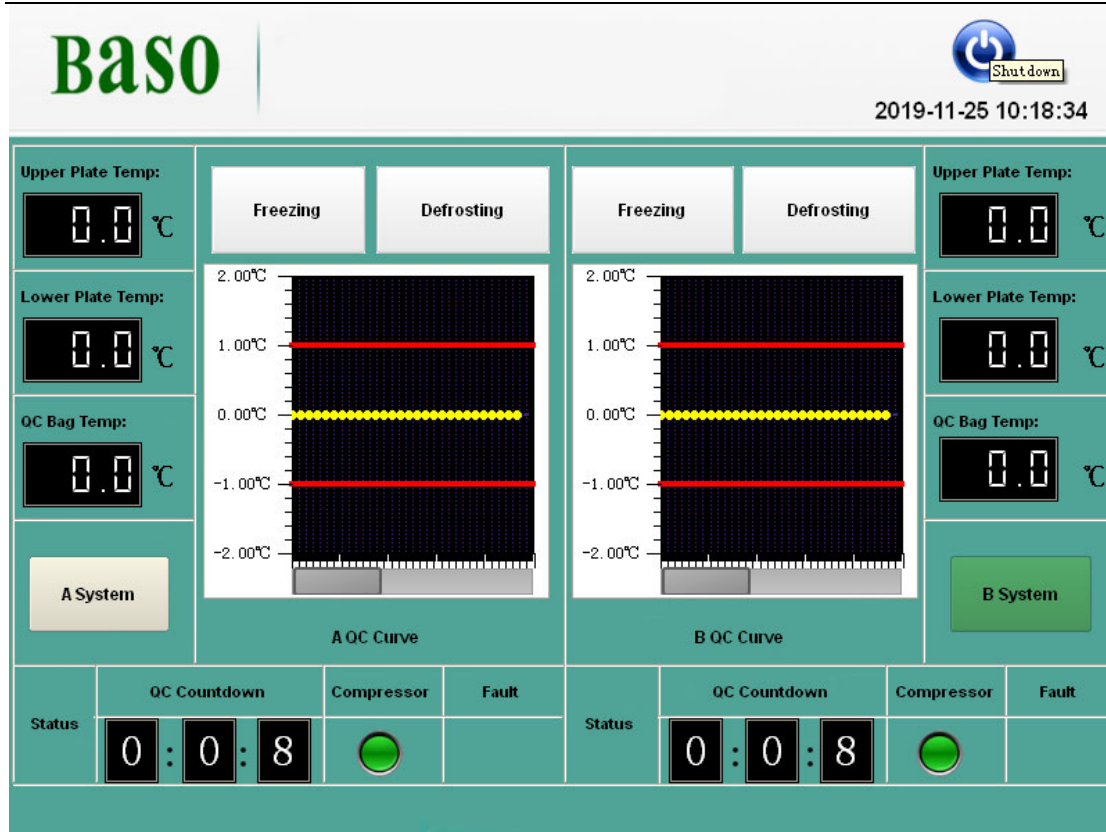

Fig 4.3 QC in Main Interface
Step 3: QC; the device automatically starts "QC" (Fig 4.3) and detects the temperature difference between the upper and lower cold plates, the temperature difference is within $\pm 1^{\circ}\text{C}$, otherwise the device alarms and a warning shows in the touch screen. After the completion of QC, the equipment will record the temperature verification value during the detection of the temperature control system and save it in the solid-state disk of the industrial computer. The QC data could be directly reviewed on the touch screen by the users according to the date and print it to a quality management form.